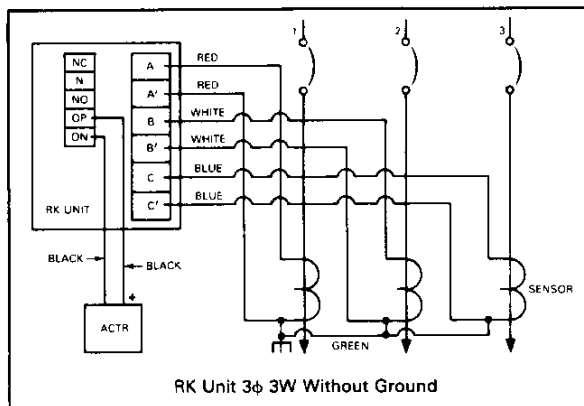

Fig. 7
1. Acquaint yourself with the wiring scheme, Fig. 7.